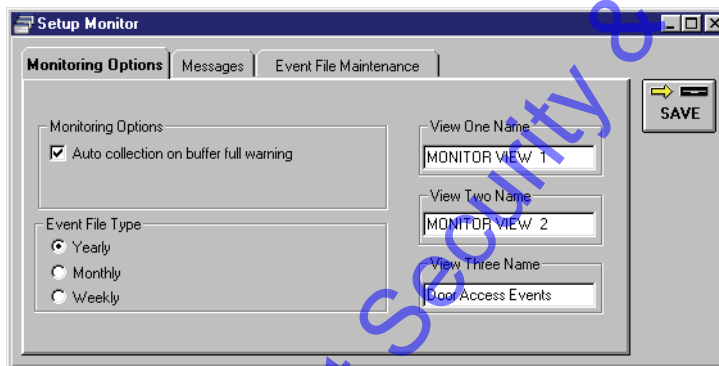

Figure 5-2: Naming Monitor View Three
1. To enable auto-collection, click on the check box beside the "Auto-collection on buffer full warning" option in the "Monitoring Options" field. When the box has a check mark, auto-collection is enabled (see Figure 5-2 on page 5 of this section).
3. Type **Door Access Events**. The resulting window should look similar to Figure 5-2.